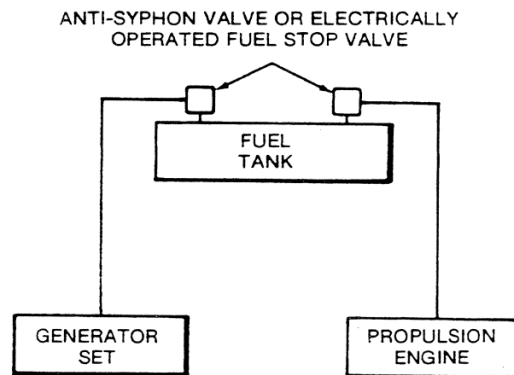

FIGURE 6. SIPHON PROTECTION
2. Installing an anti-siphon valve at the tank withdrawal fitting. See Figure 6.